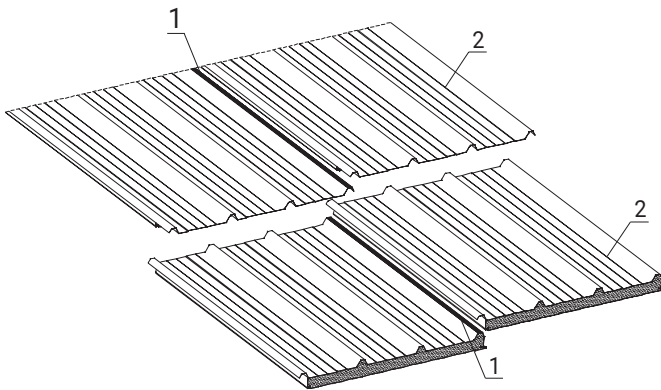

fig. 2
**b.** Longitudinal side joints of roof panels on roof slopes of  $5\% \leq a \leq 8\%$  should be sealed with a self-adhesive tape or butyl sealant (Fig.2).